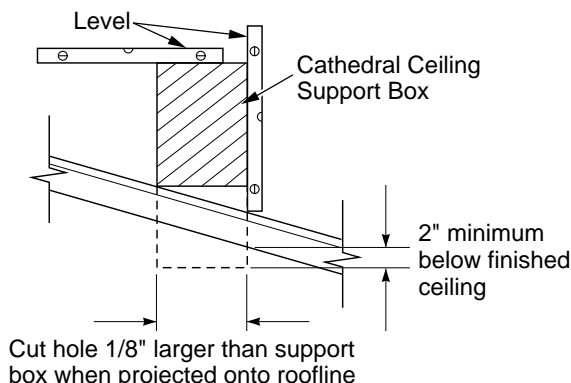

Figure 34 - Cathedral Ceiling Support Box Installation
- Cut the hole 1/8" larger than the support box outline (see Figure 34).
- Lower the support box through the hole in the roof until the bottom of the box extends at least 2" below the ceiling (see Figure 34). Align the support box vertically and horizontally using a level. Temporarily tack the support box in place through the inside walls and into the roof sheathing.